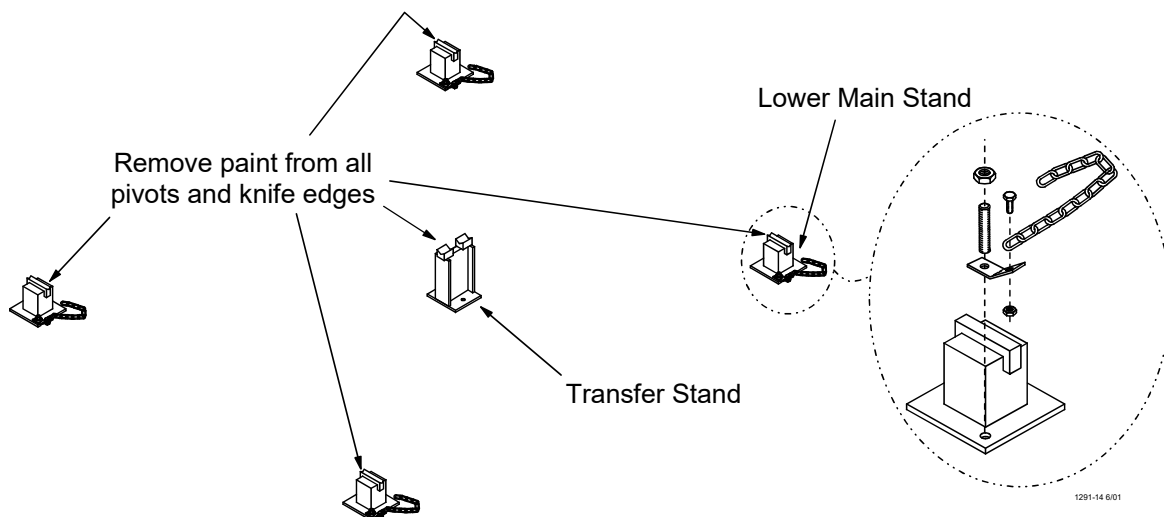

Figure 10. Placing the stands over the drilled holes and bolting in place
1. Place the four Lower Main Stands and the Transverse Stand over the holes drilled in the foundation. See **Figure 10** for correct placement. Install the Anchor Bolts and Safety Chain Assemblies but do not tighten the anchors until the scale levers are in position.